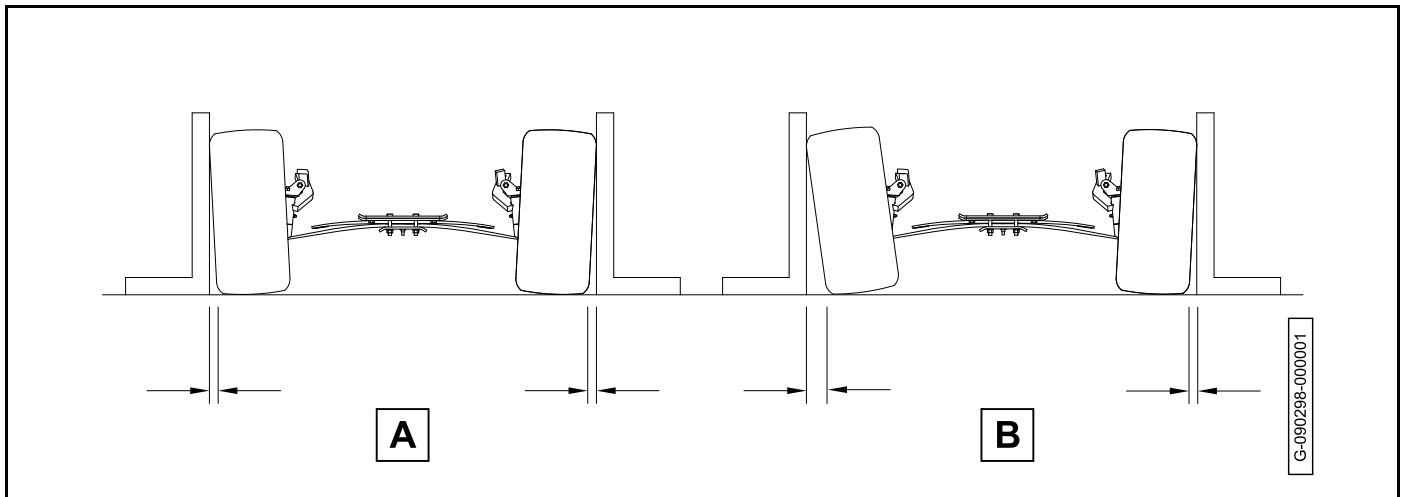

Figure 7-14
2. Check each front wheel with a framing square (**Figure 7-14, Page 7-13**).